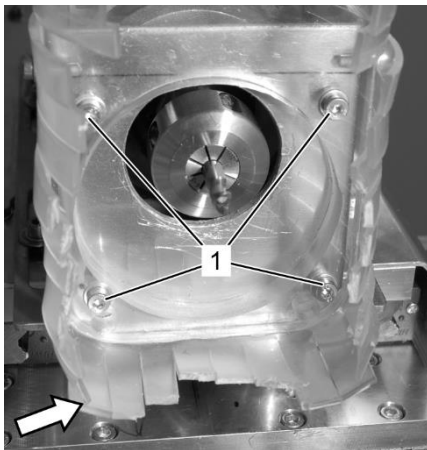

Fig. 36: protective cover
Remove four screws (Fig. 36/1).
3. Remove protective plastic cover (Fig. 36/arrow).
4. Install new cover with four screws (Fig. 36/1).